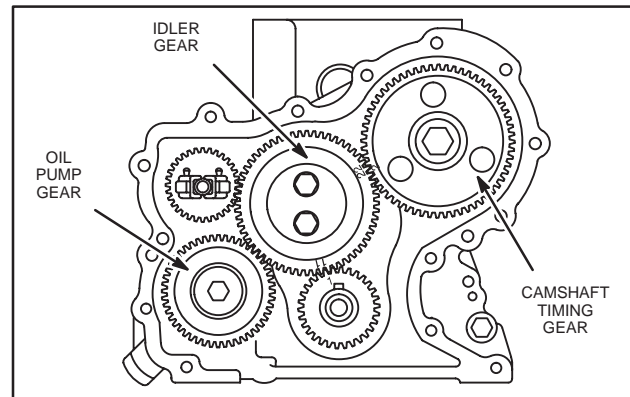

Fig. 10 – Removing Gears
5. Remove camshaft timing gear, Fig. 10.